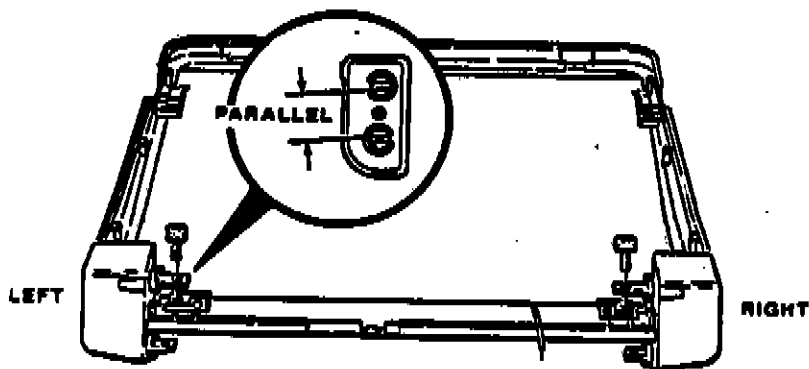

Figure 3-30. Removing the Pivot Assemblies
7. Remove the screw securing the left pivot assembly to the display cover, as shown in Figure 3-30. Set the pivot assembly and screw aside.
8. Remove the screw securing the right pivot assembly to the display cover, as shown in Figure 3-30. Set the pivot assembly and screw aside.